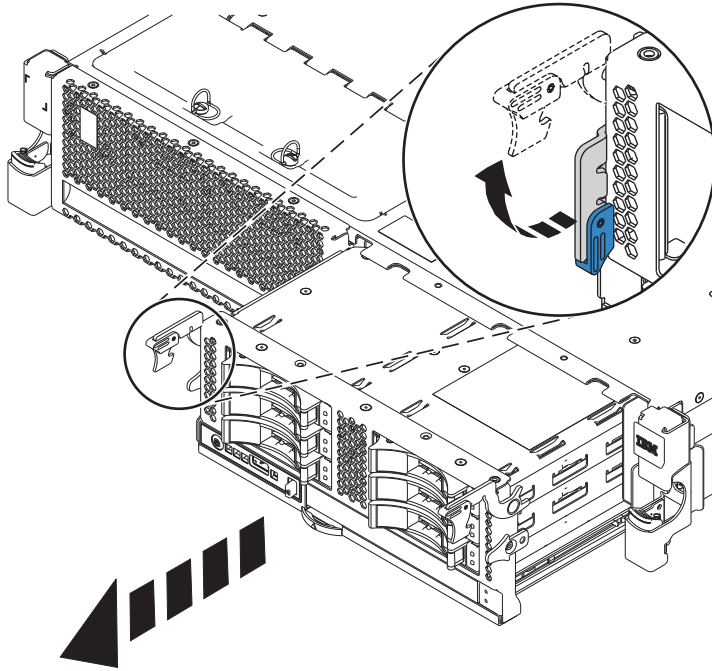

Figure 4. Removing the disk drive cage
- b. Grasp the handles and pull the disk drive cage toward you. See Figure 4 on page 9.